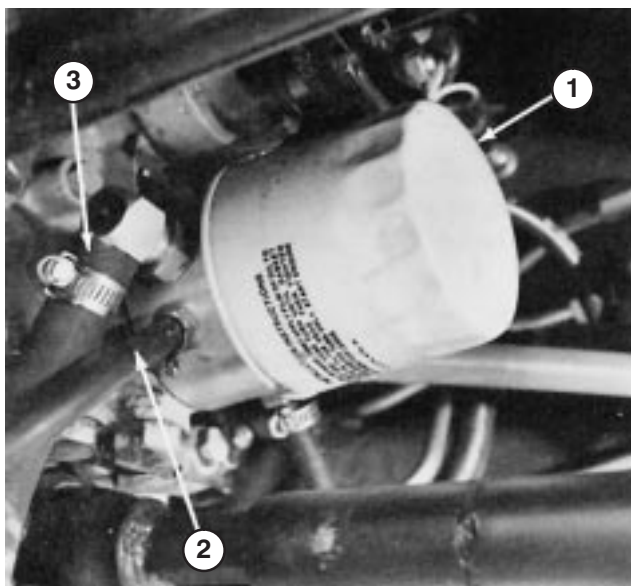

Figure 48
3. Clean the area around the hydraulic oil filter and remove the filter (Fig. 48).